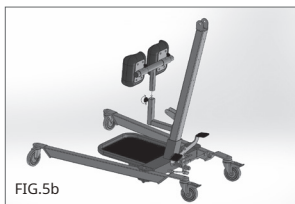

FIG.5b
- 5 .. Connect and fasten the hinge between the column and the arm with the supplied screws (Fig.5b)